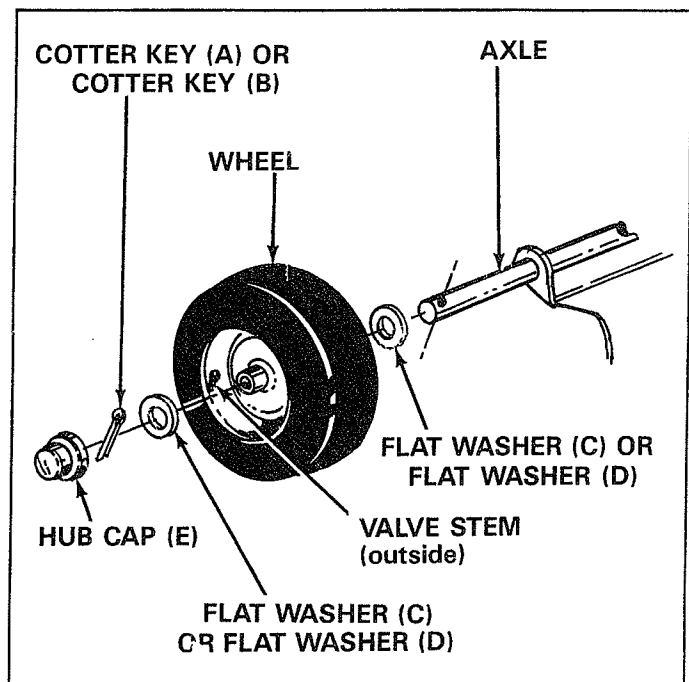

FIGURE 13
Position valve stem to outside when installing wheels on axle. See figure 13.
- Assemble wheels as described in step 19, using flat washers (C), cotter keys (A) and hub caps (E). See figure 13.